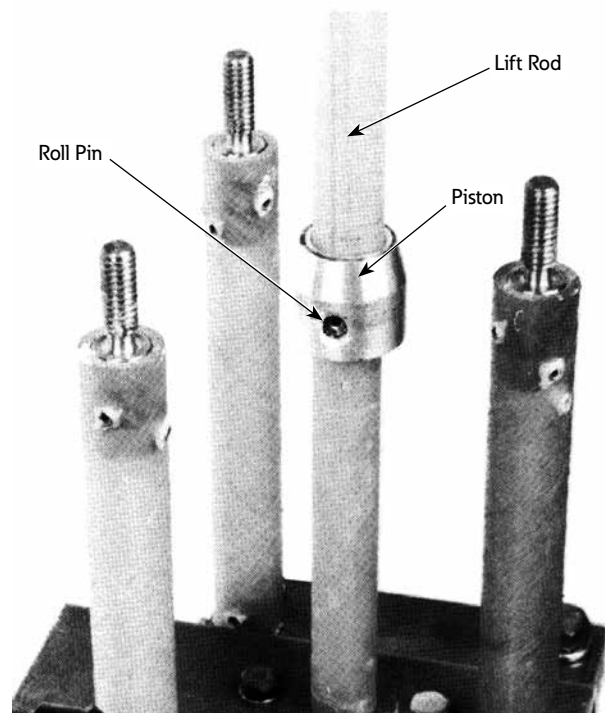

Figure 5. Removing lift rod piston.
7. Drive out roll pin that secures piston to lift rod, see Figure 5. Remove piston.